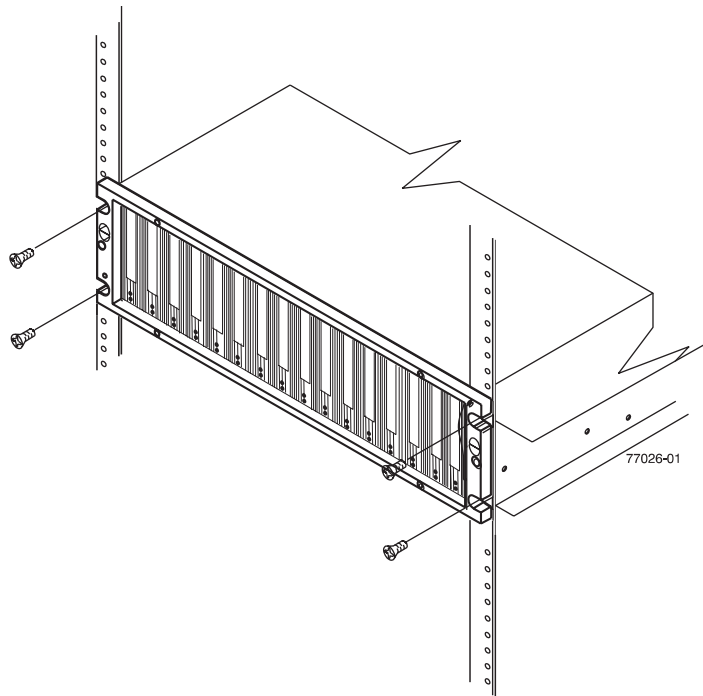

Figure 26. Securing the DS4700 Express to the rack cabinet
4. Secure the storage subsystem. Figure 26 on page 48 shows how to secure the storage subsystem to the rack.
- c. Secure the front of the DS4700 Express using the four M5 screws as shown in Figure 26 on page 48.